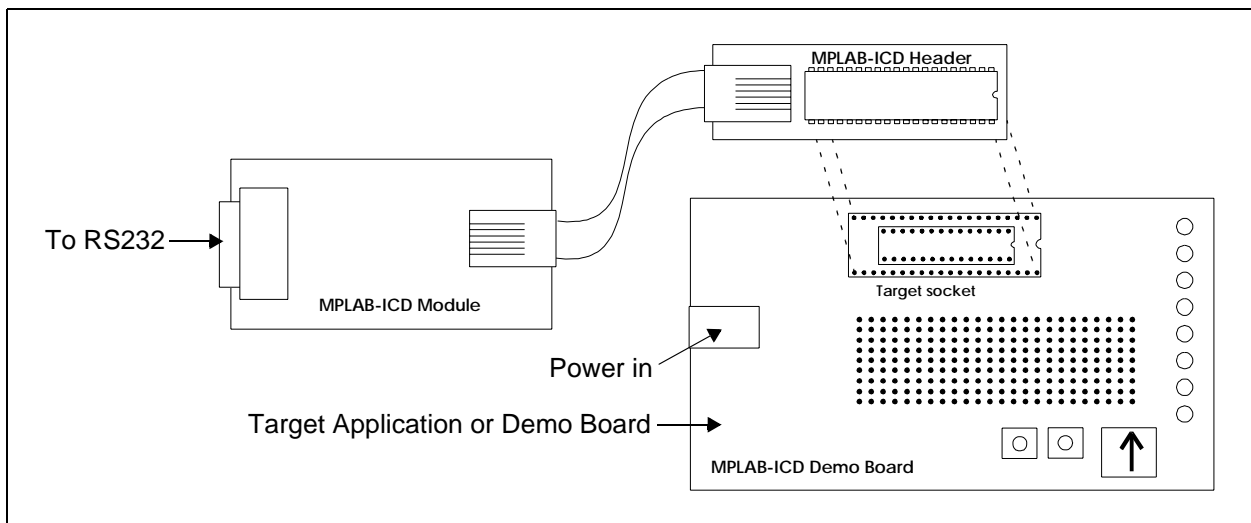

Figure 2.2: MPLAB-ICD Hardware Connection
4. Plug the MPLAB-ICD Header into the connection socket in the Demo Board or target application (Figure 2.2). You can also connect the MPLAB-ICD Header to a 28-pin SDIP socket in the Demo Board/target via the 28-pin SDIP connection socket.